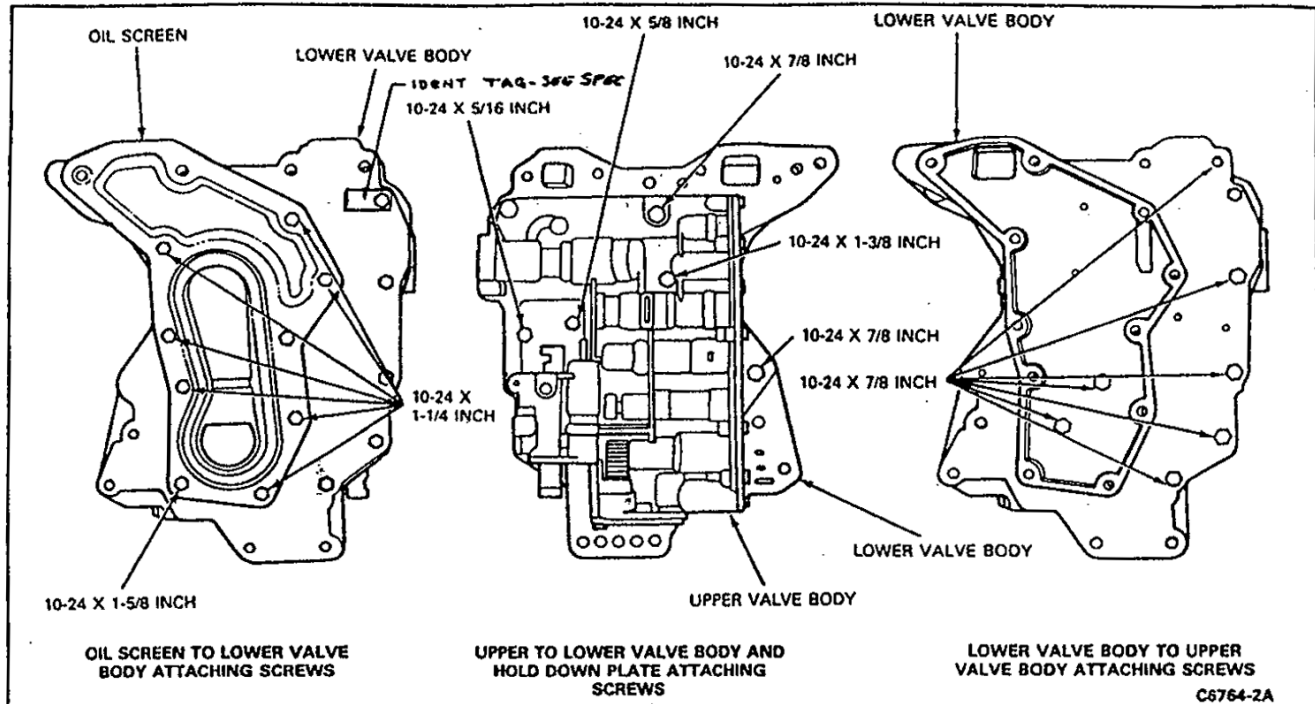

FIG. 24 Control Valve Body and Screen Attaching Screws
1. Remove the nine screws that attach the screen to the lower valve body (Fig. 24) and remove screen and gasket (Fig. 25).
2. Remove the five upper-to-lower valve body and hold-down plate attaching screws. Remove the seven attaching screws from the underside of the lower valve body (Fig. 24).
4. Place the lower body and plate assembly on the upper valve body (Fig. 24) and install the attaching screws finger tight.
7. Remove the oil screen attaching screws and place the gasket and oil screen in position on the lower valve body. Re-install the screen attaching screws (Fig. 24).